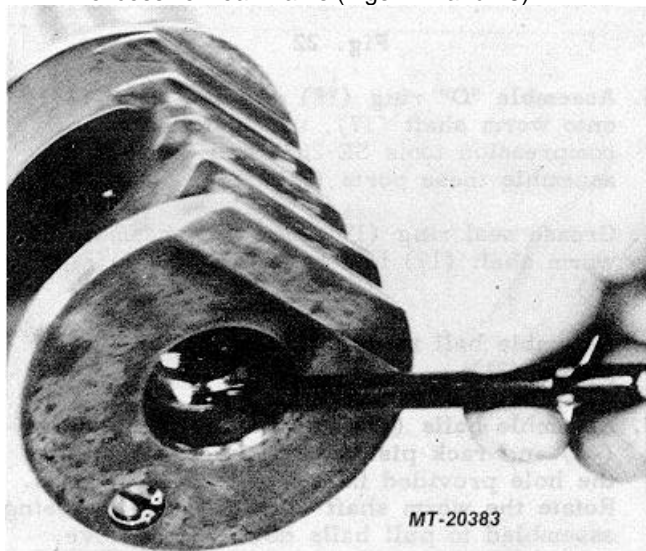

Fig. 17
35. Inspect rack piston (31) teeth and worm groove for excessive wear marks (Figs. 17 and 18).